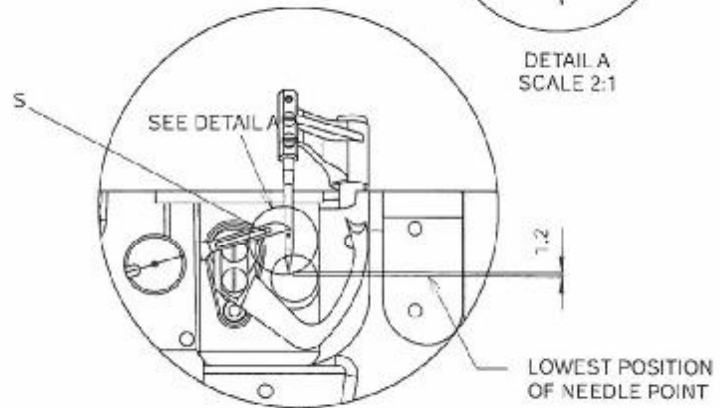

Fig. 4.3
2. Turn the hand-wheel a little further (see FIG 4.3) until the needle has traveled 1.2mm on the upward stroke.
3. In this position, the point of the lower looper should just pass behind the needle as seen in Fig 4.3 + Detail A.
With the upper looper in its bottom dead centre, make sure the outer end of the upper looper aligns with the centre of the screw (YH250223) that fixes the needle bar bushing (Fig 4.3).